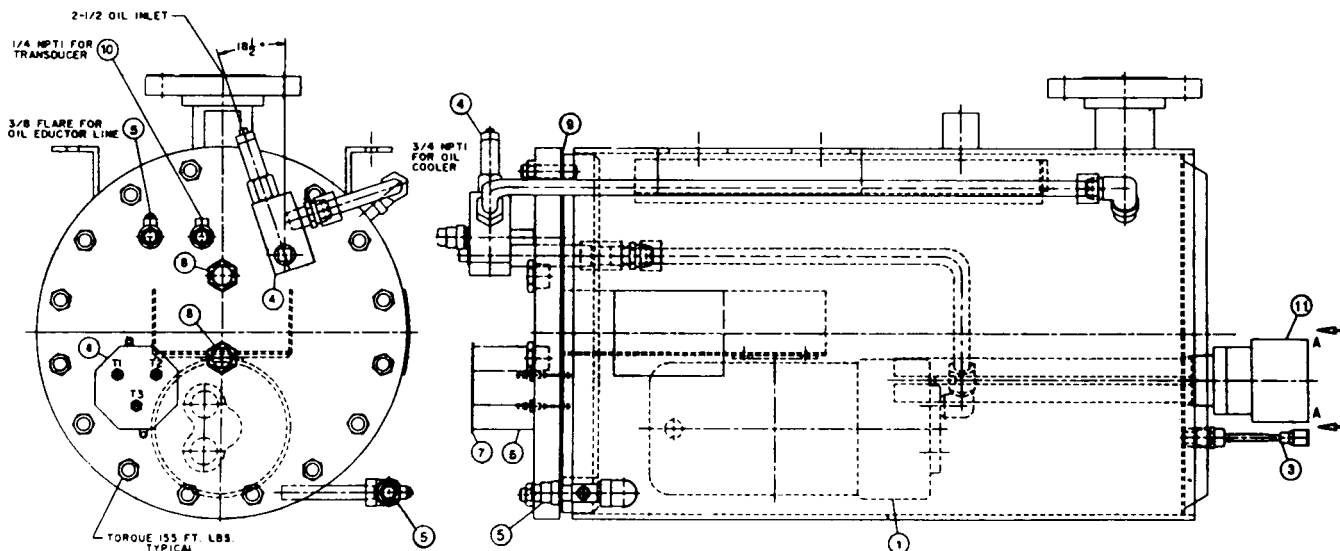

FIG. 41 - OIL RESERVOIR ASSEMBLY
3. Remove the hex nuts from the oil sump cover. (See Fig. 41)
4. After all nuts are removed, pull the oil sump cover loose and remove the cover and oil pump assembly. (See Fig. 41)